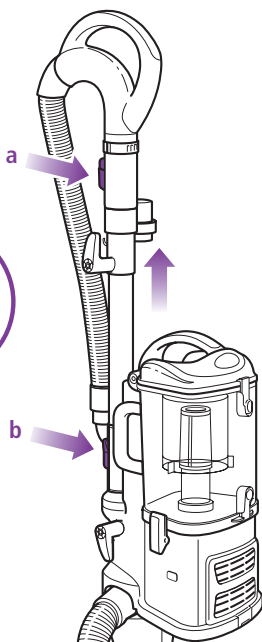

Fig. 14
- 2 Press the handle release button (a) and pull the handle up or press the extension wand release button (b) and pull the extension wand up. (Fig. 14)